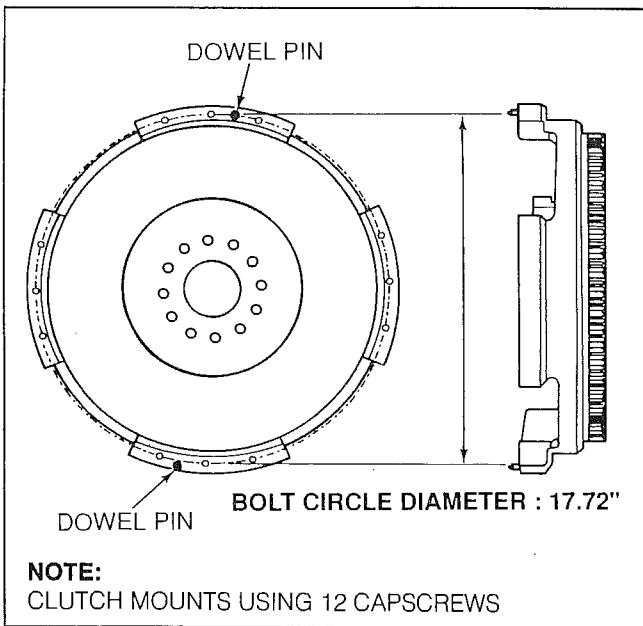

Figure 4-11. Measuring Points on Flywheel for 17-inch Clutch (Pot Type)
- Measure bolt circle diameter (Fig. 4-11).